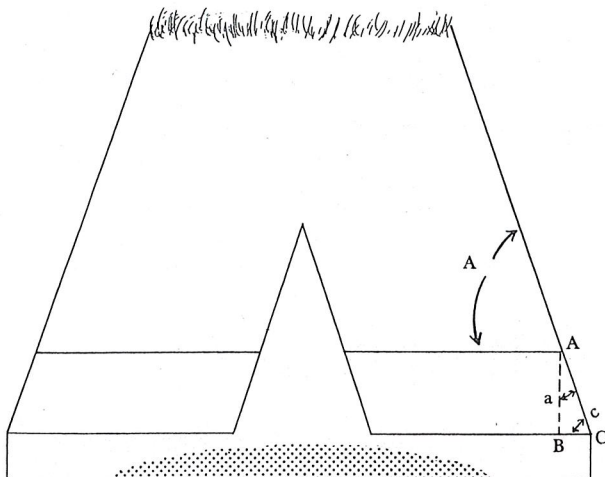

Figure 2
To achieve symmetry in the build-up we must also figure the amount to be fit for the quarters. With the use of a hoof gauge we find that angle *a* in Figure 2 is 60°. Angle *c* is also 60° in this case. A wedge will not normally alter angle *c* in the quarters as drastically as it might in the toe, unless the wedge is put in sideways. We now know that length AB is approximately 3/4", and that ABC is a right triangle. Another geometry theorem states that in a right triangle, if one of the angles is 60° the side adjacent to it (BC) is one-half the length of the hypotenuse (AC). By substituting *x* for BC, 2*x* for AC, and 3/4" for AB, we get the following equation: